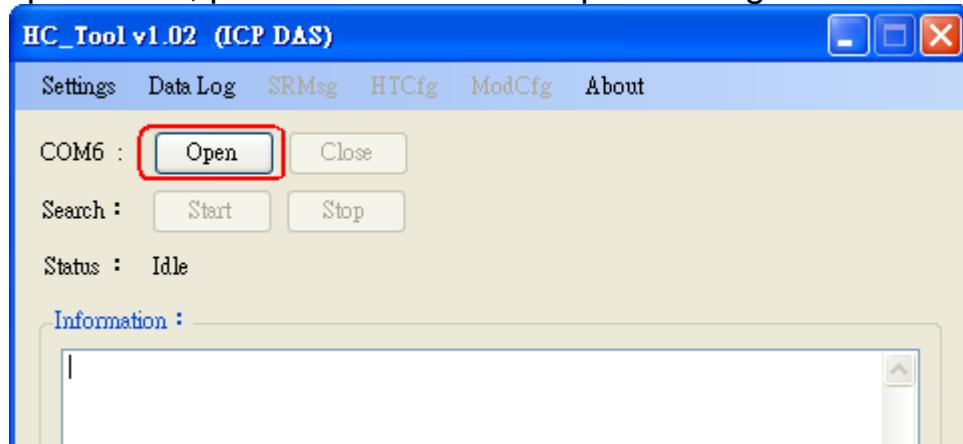

Figure 4-7: Click “Open” button
(1) Click “Open” button to open the com port of PC like Figure 4-7. If com port open failed, please check the com port setting.